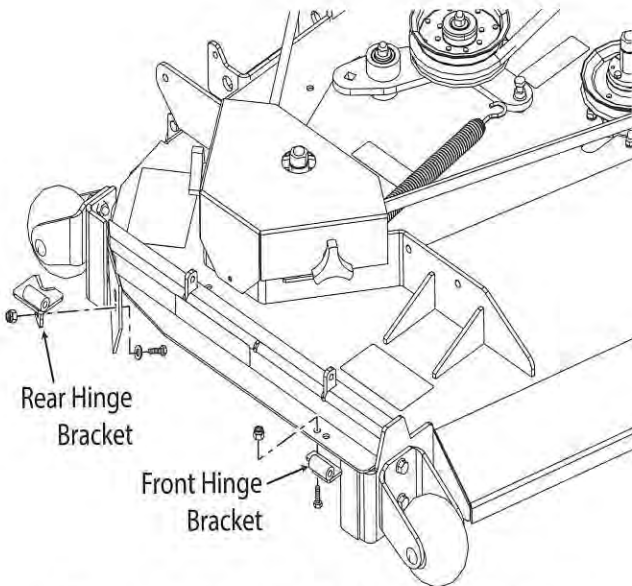

Figure 3-16. Hinge Weldment Installation
5. Install the rear hinge bracket to the cutter deck using one (1) 5/16-18 x 1" bolt, one (1) 5/16" flatwasher and one (1) 5/16-18 elastic stop nut. Do not tighten the hardware. See Figure 3-16.